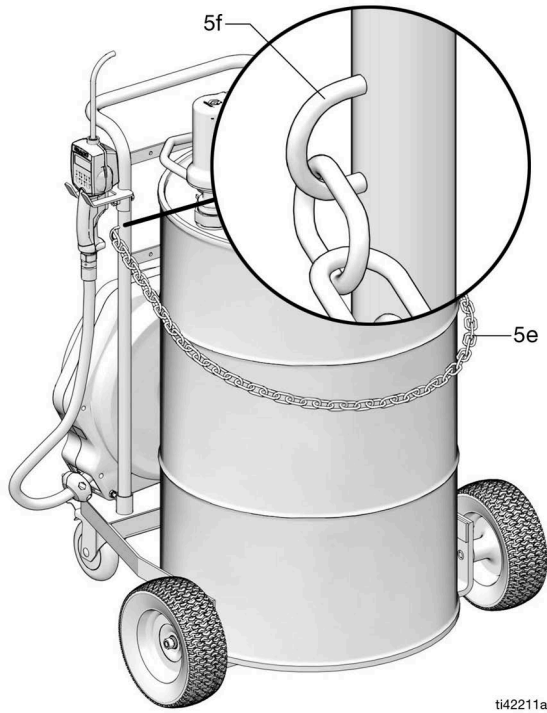

FIG. 35
7. Secure a chain (5e) around the drum, as shown in FIG. 35. Adjust the chain to a suitable length for the drum size. Connect the ends of chain to the two ear brackets (5f).